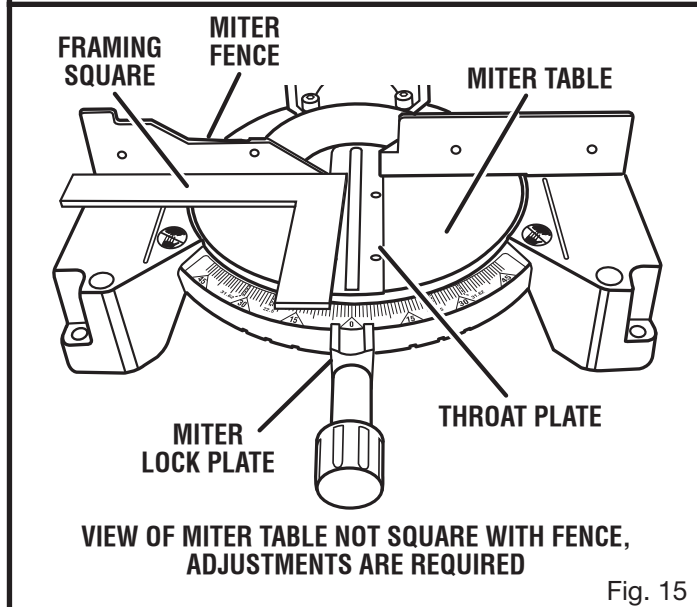

Fig. 15
- If the edge of the framing square and the throat plate in the miter table are not parallel as shown in figures 15 and 16, adjustments are needed.